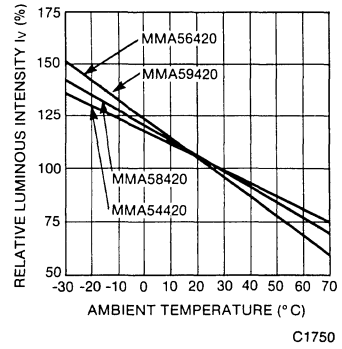

Fig. 6. Relative Luminous Intensity vs. Ambient Temperature
2. The curve in Figure 6 is normalized to the brightness at 25° C to indicate the relative efficiency over the operating temperature range.